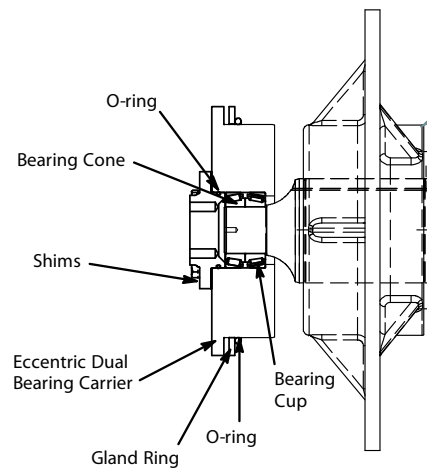

Figure 56 - Dual Bearing Eccentric
8. With a gloved hand, quickly slide the heated dual bearings fully onto the output shaft. Ensure that the bearing is installed correctly. See Figure 56.